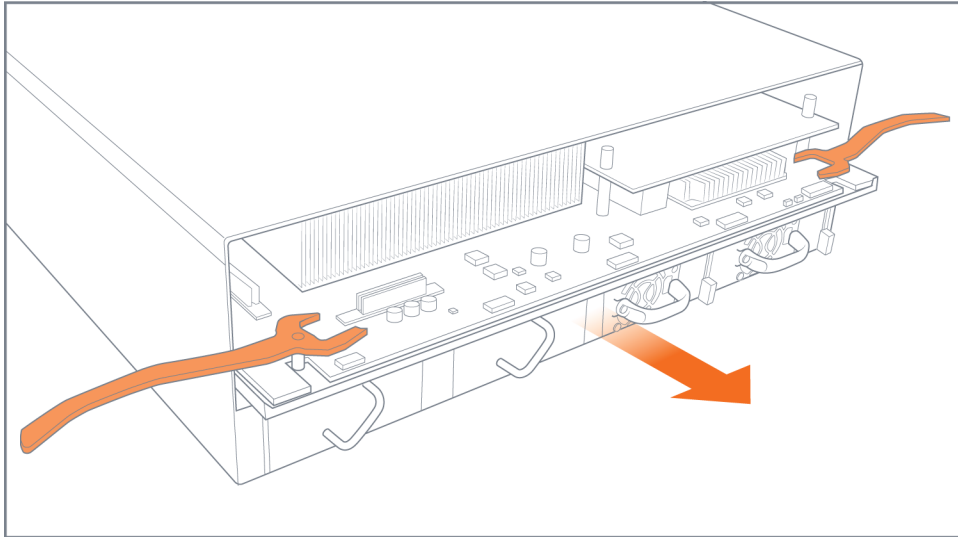

Figure 4-19: Control Card Removal
5. Pull out the control card. Refer to Figure 4-19 on page 86.